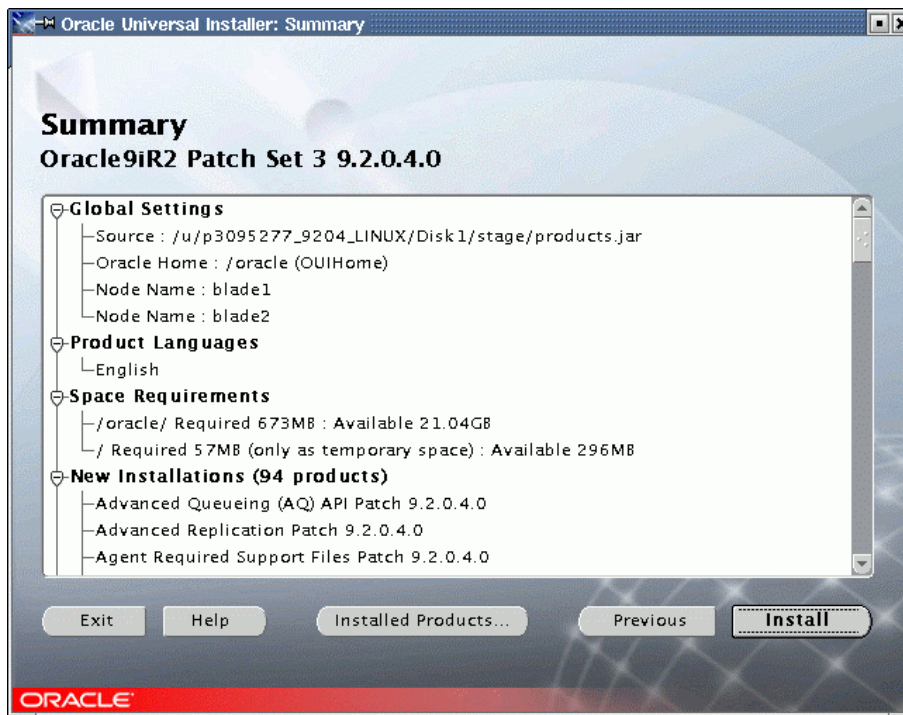

Figure 65. Summary
- The Summary screen is displayed (Figure 65). Click **Install** to begin installation.